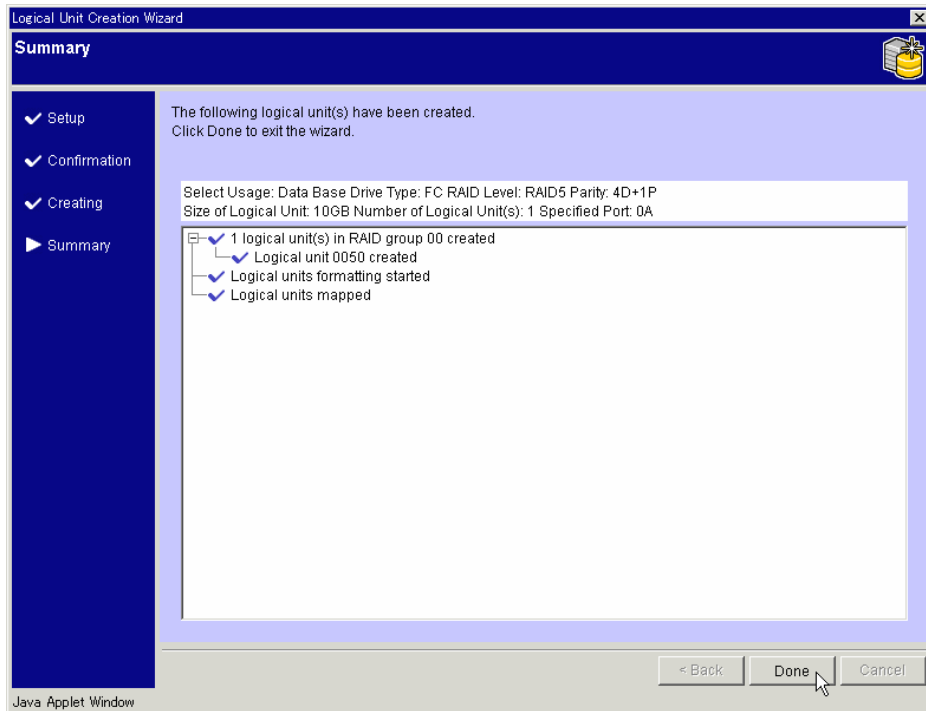

Figure 6.3 Logical Unit Creation Wizard - Summary
5. Click **Done**. The Logical Unit Creation Wizard Summary displays. See Figure 6.3.